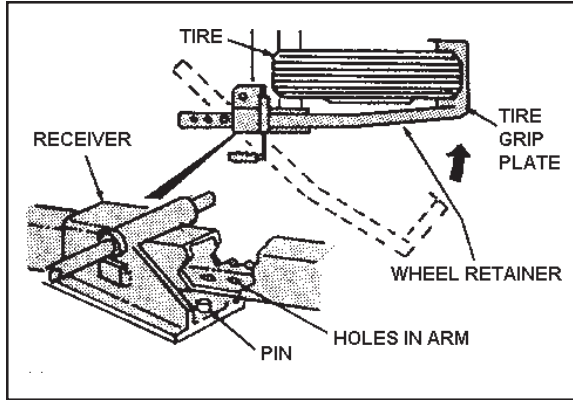

Figure 4-5.
10. At each wheel, insert the wheel retainer into its receiver. Leave about 1/2 inch space between the wheel and retainer when possible to allow the disabled vehicle's tire to sit lower in the wheel retainer mechanism. Swing the retainer into position so that the tire grip plate fits closely behind the tire. Make sure one of the holes in the bottom of the arm of the retainer engages the pin in the receiver, thereby locking the arm. (See Figure 4-5.)